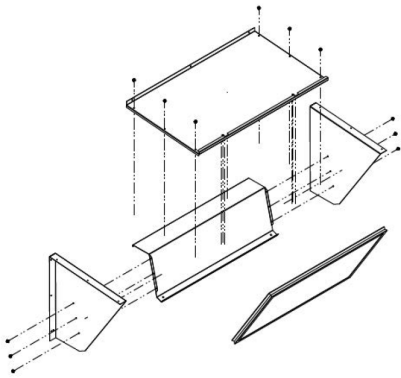

FIGURE 3 - ECONOMIZER HOOD ASSEMBLY
6. Assemble the hood per the exploded view in Figure 3 using the screws provided. Insert the bottom of the aluminum mesh filter so it will rest on the hood divider, then snap the top of the filter into the clips at the top.